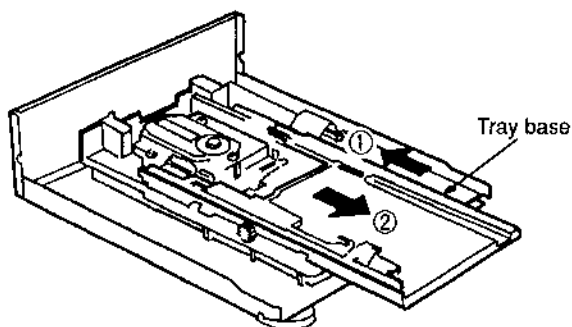

Fig.2
3. After sliding the tray base in the direction of arrow ①, draw the tray base gradually in the direction of arrow ②. (See Fig.2)